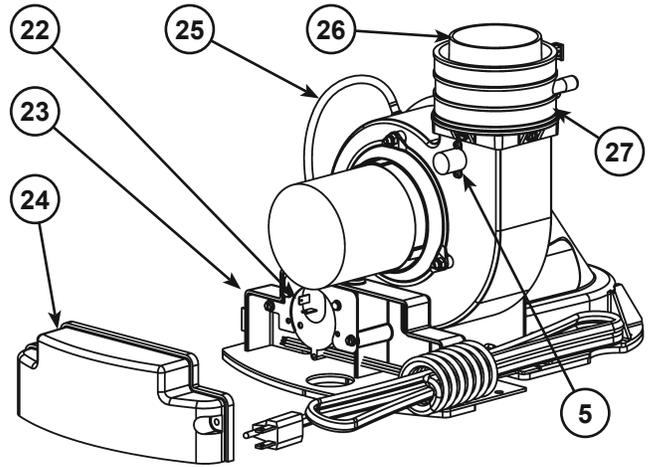

Figure 49
- 5 Limit Switch (see Figure 9) (see also Figure 49)
- 21 Blower with Power Cord (see Figure 9) (see also Figure 49)
- 22 Air Switch (inside box) (see Figure 9) (see also Figure 49)
- 23 Junction Box (see Figure 9) (see also Figure 49)
- 24 Junction Box Cover (see Figure 9) (see also Figure 49)
- 25 Air Tubing (see Figure 9) (see also Figure 49)